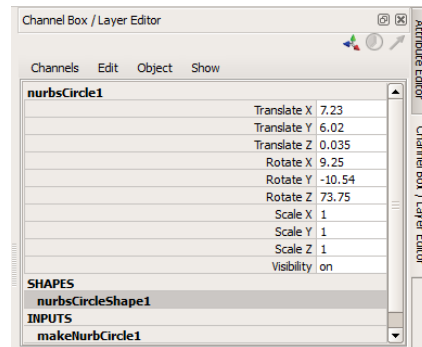

Figure 3-97 The **nurbsCircle1** node in the **Channel Box / Layer Editor**
3. Make sure the NURBS Circle is selected in the viewport. Set the parameters in the **nurbsCircle1** area of the **Channel Box / Layer Editor**, as shown in Figure 3-97.